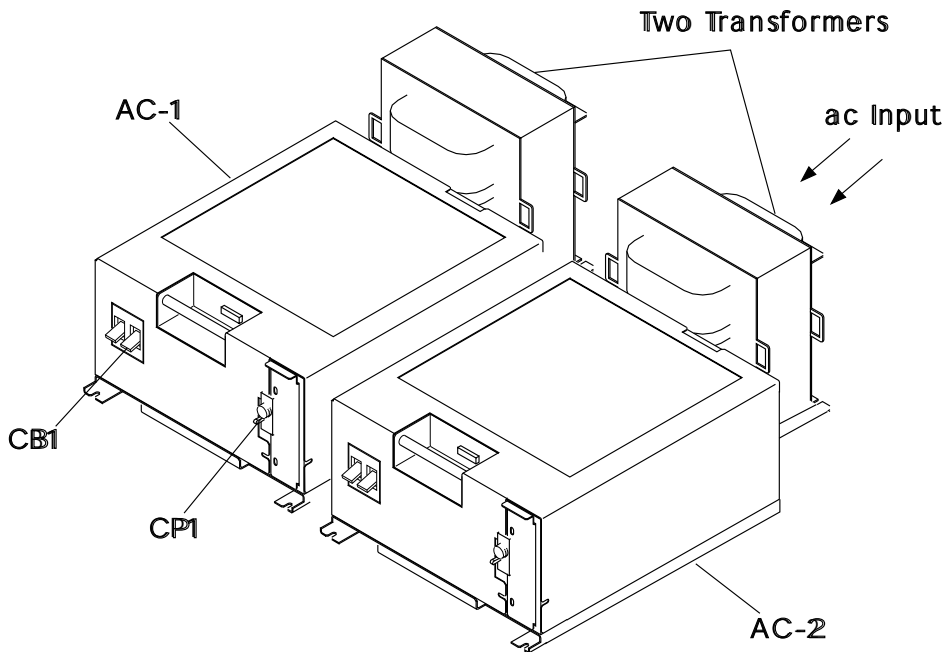

Figure B-11. 3746-950 Power Area with 2 AC (AC-2 is Optional)
- Step 2. ____ **Switch** the main circuit breaker CB1 **OFF** at the 3746-950 primary power box. (See Figure B-11 on page B-8, or Figure B-12 on page B-8 if the optional power feature is installed).